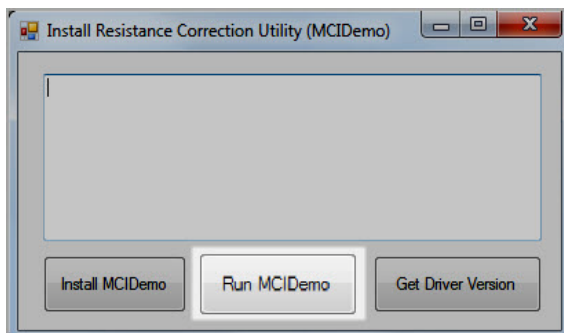

Figure 1
6. In the Install Resistance Correction Utility window **click** the Run MCIDemo button as shown in Figure 1.